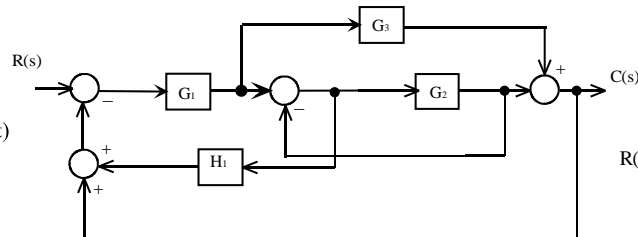

Fig.Q1B
**1B.** Using block reduction technique reduce the given block diagram shown in Fig Q1B in its simple form and obtain the equivalent transfer function  $\frac{C(s)}{R(s)}$